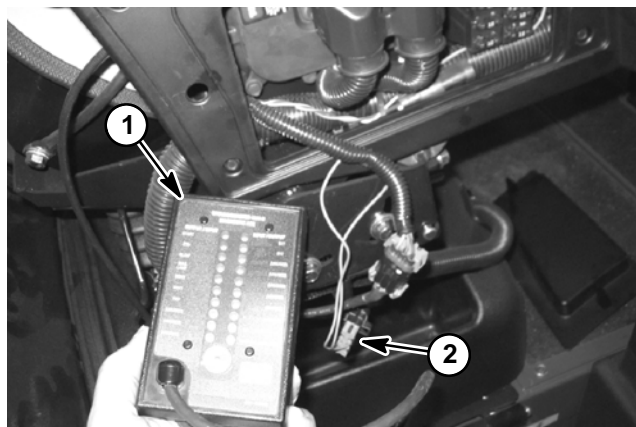
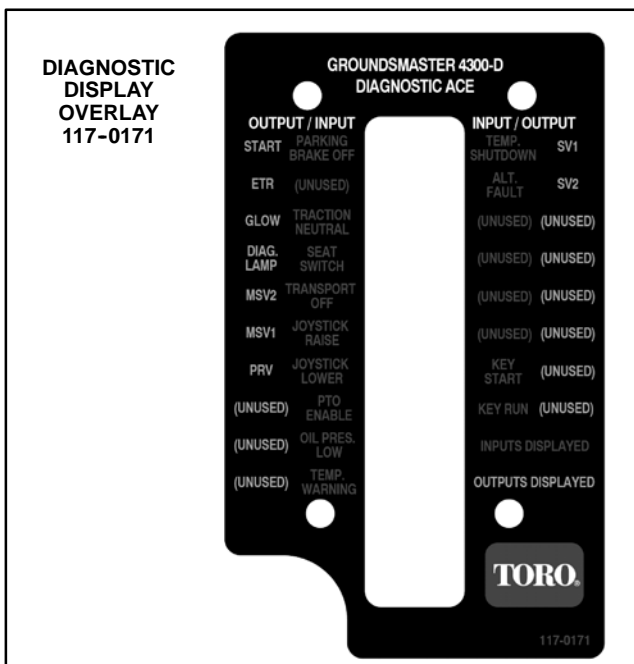

Figure 10
Figure 11
3. Connect the Diagnostic Display connector to the harness connector (Fig. 10). Make sure correct overlay decal is positioned on the Diagnostic Display (Fig. 11).